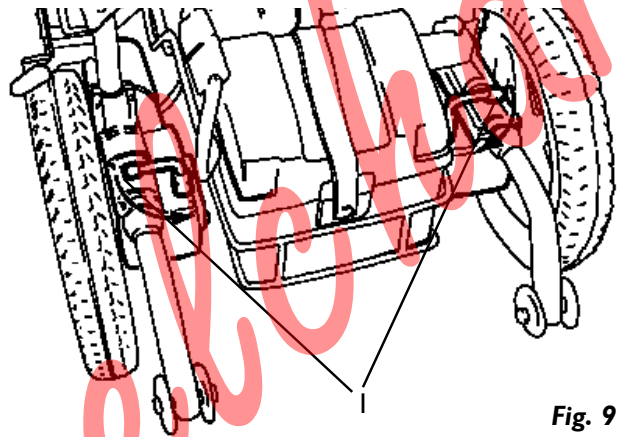

Fig. 9
1. Freewheel is engaged in drive Position (Fig. 9).
WITH NO OCCUPANT in it, the two motor/gearbox units can be declutched from the rear wheels. First ensure that power is switched OFF on the joystick box. Then, standing behind the powerchair, turn the lever (Fig. 9) with the little black end cap on each of the motor/gearbox units through 90 degrees outward, so that they are at a right angle to their normal engaged position. To restore powered drive, turn BOTH levers back to their normal position.
Before you attempt to drive the chair, ensure that BOTH declutch levers are FULLY returned to normal operating position (Fig. 9).